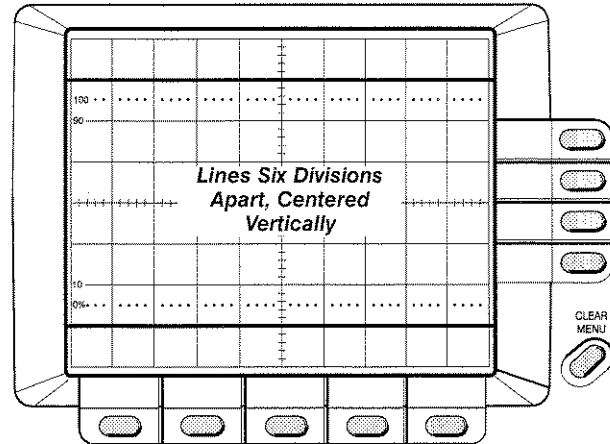

Figure 7-11: Adjusting Vertical Gain and Centering
19. Adjust R112 (vertical gain) and R154 (vertical centering) on the Display Driver board, setting the horizontal cursors 6 divisions apart, centered vertically (see Figure 7-11).